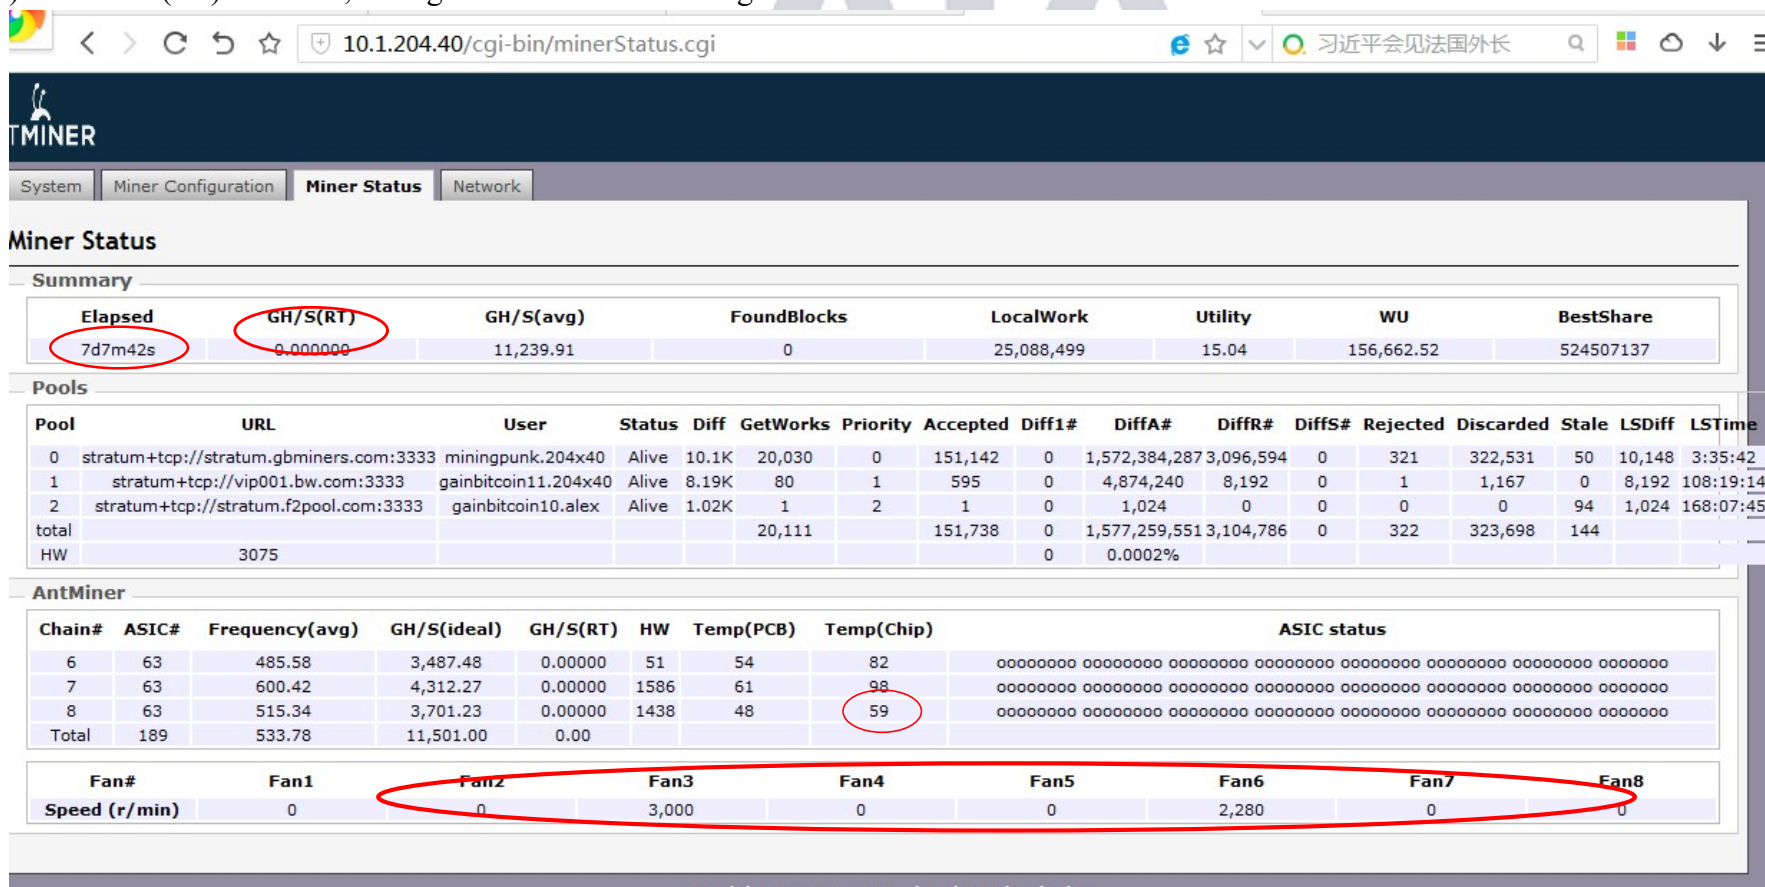

Fig 23. No Hash Rate
2) No GH/S(RT) hash rate, red light blinks. See below Fig 23: